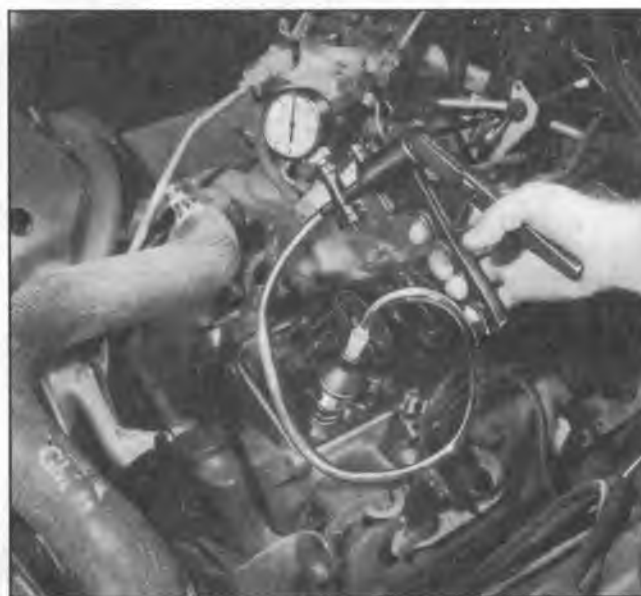

Fig. 27--Checking Valve Stem Oil Seals
4. On In-Line and "Small V8" engines check each valve stem oil seal by placing Valve Seal Leak Detector (Tool J-23994) over the end of the valve stem and against the cap. Operate the vacuum pump and make sure no air leaks past the seal (fig. 27).